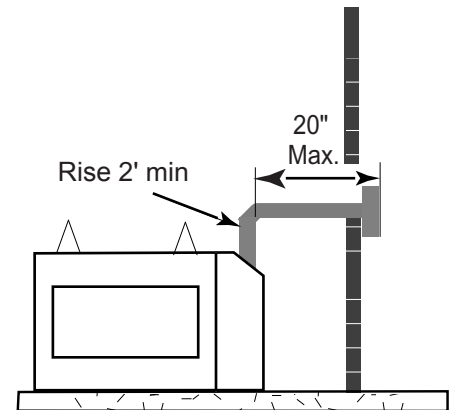
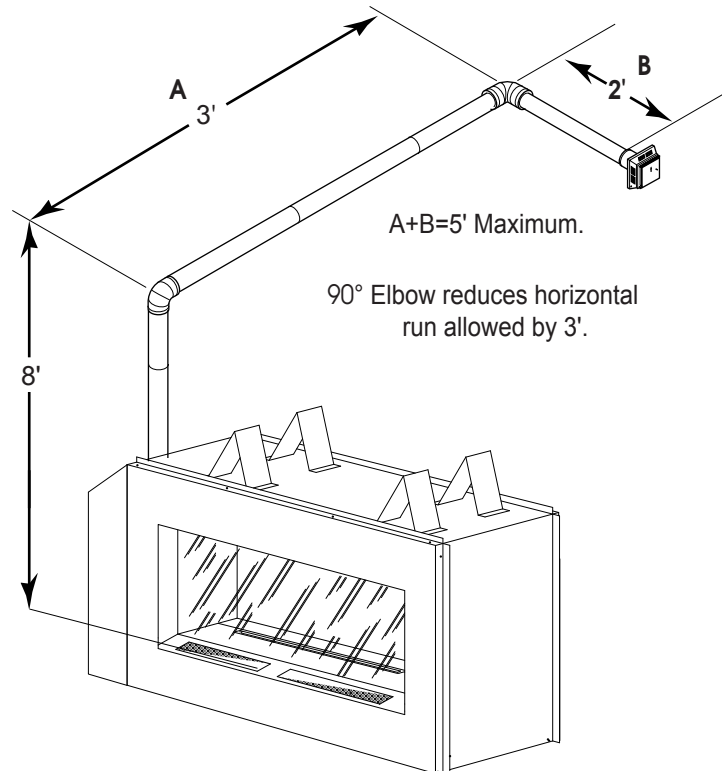

Figure 19 - Maximum Horizontal Run with 2 foot rise
Figure 20 - Maximum Vent Run with Elbows
- If a 90° elbow is used in the horizontal vent run (level height maintained) the horizontal vent length is reduced by 36" (914 mm) (Fig. 20 A and B) This does not apply if the 90° elbows are used to increase or redirect a vertical rise. See Figure 19.
In Figure 20, Dimension A plus B must not be greater than 5'.